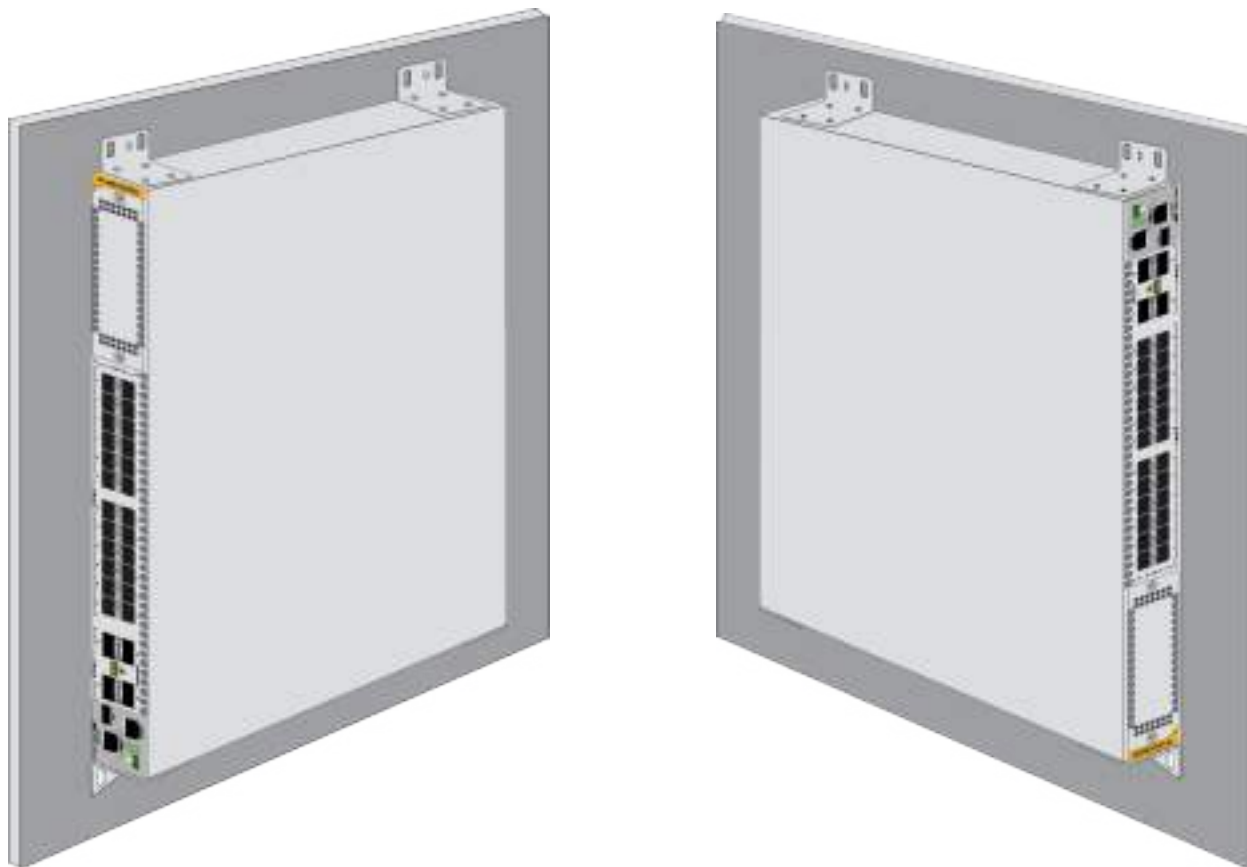

Figure 87. Positions of the Switch on the Wall
You can install the switch on a wall with the front panel on the left or right, as shown in Figure 87. Do not install it with the front panel on the top or bottom.
- ❑ Position the switch so that the front panel is either on the left or the right. Refer to Figure 87 on page 148. You may not install the switch with the front panel facing up or down.
- ☐ Position the switch so that the front panel is either on the left or the right. Refer to Figure 87 on page 148. You may not install the switch with the front panel facing up or down.